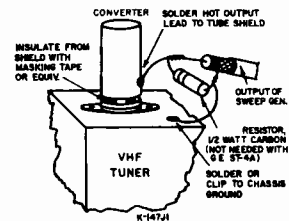

FIGURE 3. I-F SWEEP JIG
3. Connect sweep generator to converter stage using a test jig made up of an ungrounded tube shield terminated to ground as specified by the generator manufacturer. Users of General Electric test equipment need not terminate as the attenuator is terminated -- see Fig. 3.